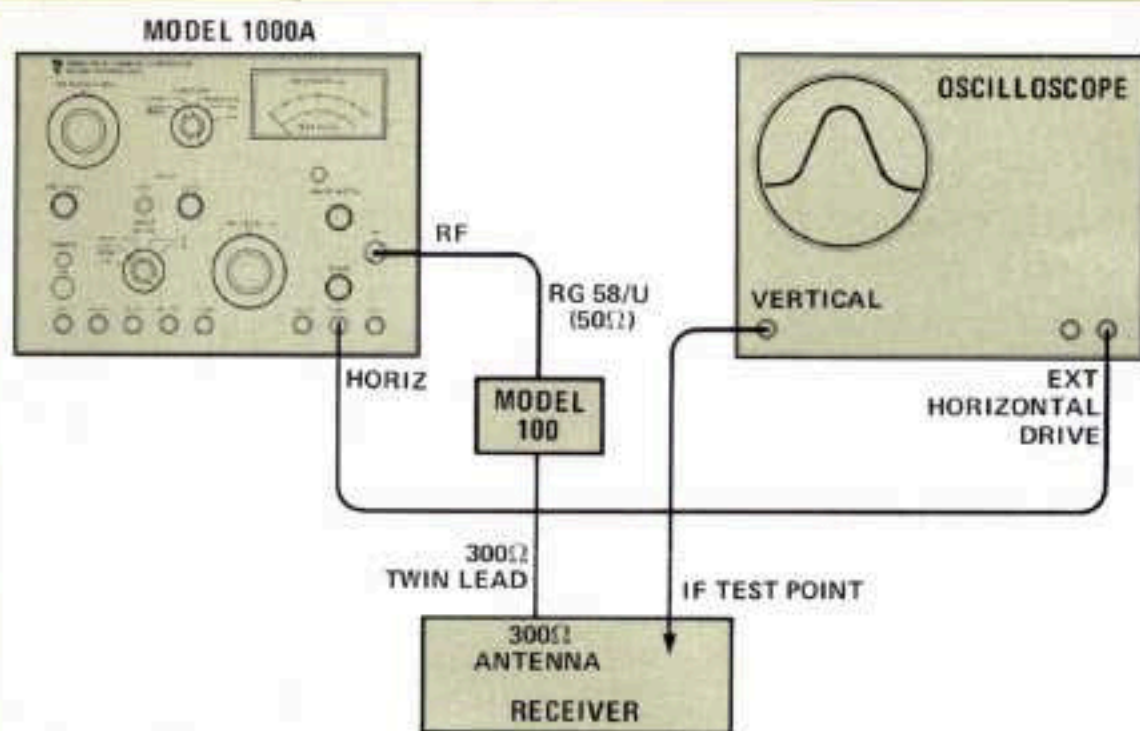
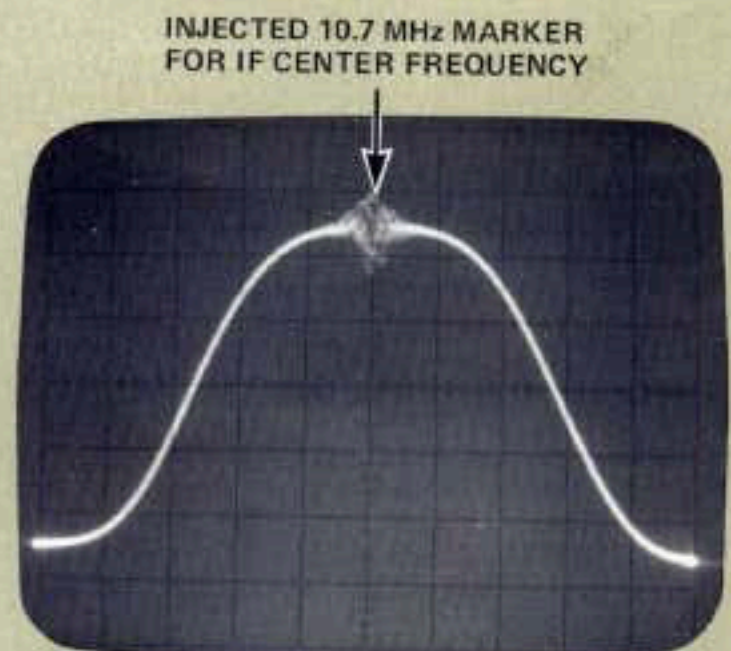

Figure 1. RF and IF Sweep Alignment
Figure 4.
Connect the 1000A and a scope to the receiver as in Figure 1 and set the receiver and the 1000A controls as described in the Alignment Chart, Step 1. Adjust 1000A frequency dial to locate IF sweep pattern in the center of the scope trace. Adjust PHASE control to make forward and reverse traces on the scope coincide. A typical response pattern is shown in Figure 4. The pattern will be inverted in some receivers. Adjust the IF circuits for maximum amplitude and symmetry of the pattern. Vary 1000A RF LEVEL up and down to see if the pattern maintains its shape and make a compromise adjustment if necessary.
1. If the IF strip will not come into alignment or if for some reason you suspect the IF frequency is too far away from 10.7 MHz (greater than 0.5 MHz), you can inject a signal from a 10.7 MHz crystal oscillator into the IF strip and obtain a beat frequency marker as shown in Figure 4. Inject the
Connect equipment as in Figure 1, and set the receiver and 1000A controls as described in the Alignment Chart, Step 4. With the receiver and generator set near 90 MHz, adjust all the rf (excluding local oscillator) coils for maximum amplitude and symmetry of the scope display. If maximum amplitude does not coincide with optimum symmetry it may be necessary to go back and touch up the IF circuits.